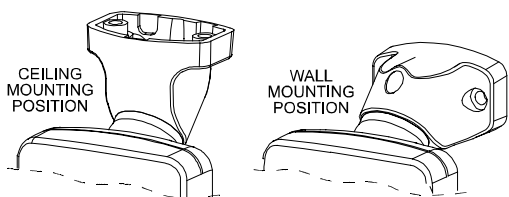

Figure 6. Wall and Ceiling Positions of Bracket
- 5th. Rotate the bracket to the desired position (see Figure 6) but do not yet tighten the screw fully.